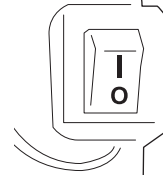

Fig. 12
- > Release the throttle trigger (12) and let the product run at its idle speed for 10 – 15 seconds.
- > Set the ignition switch (14) to its off position “O” (Fig. 12).